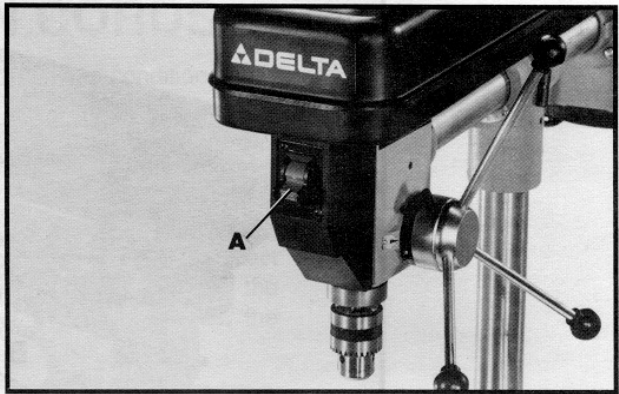

Fig. 18
The switch (A) Fig. 18, is located on the front of the drill press head. To turn the drill press "ON" move the switch to the up position. To turn the drill press "OFF" move the switch to the down position.